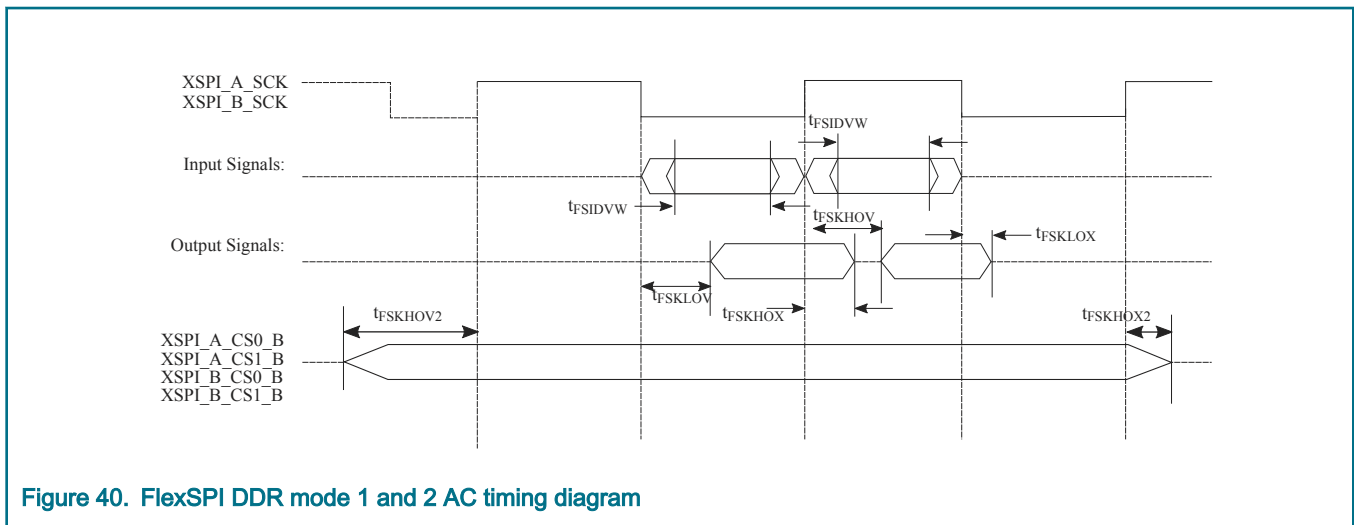

**Figure 38. FlexSPI clock input timing diagram**
3. See Figure 38.
5. See Figure 38.